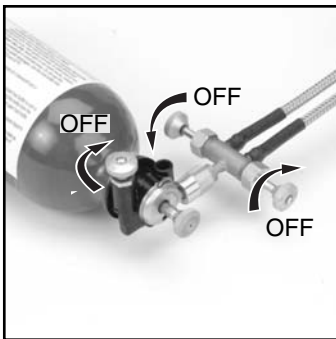

FIG. 33
- Turn all **FUEL VALVES** fully “OFF”. (Fig. 33)